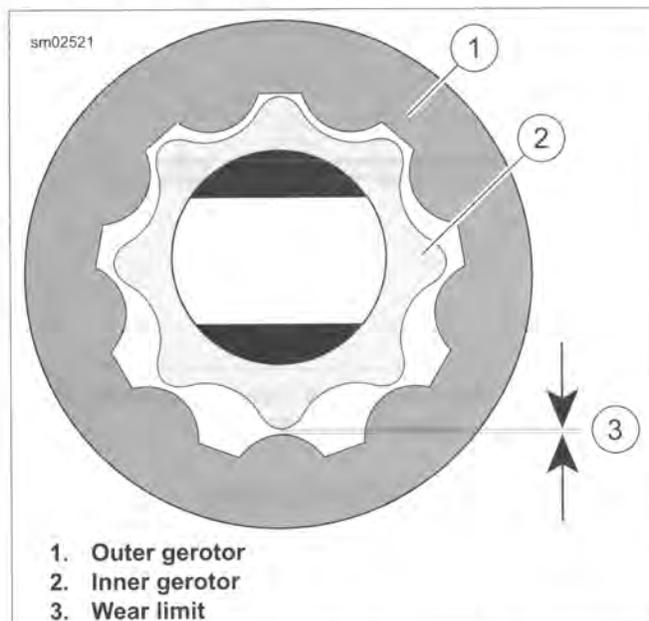

Figure 3-116. Measure Gerotor Sets for Wear
6. See Figure 3-116. Check gerotor wear.